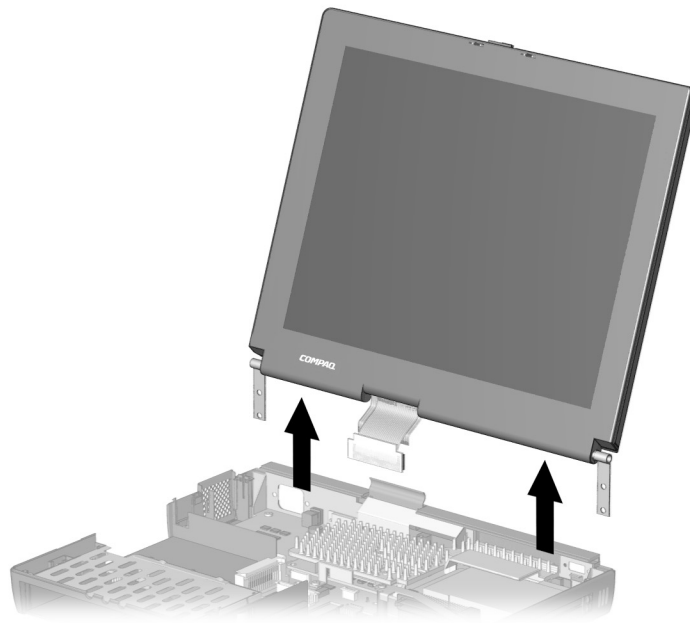

Figure 5-49. *Removing the Display Assembly*
12. Lift the display assembly straight up from the computer (Figure 5-49).